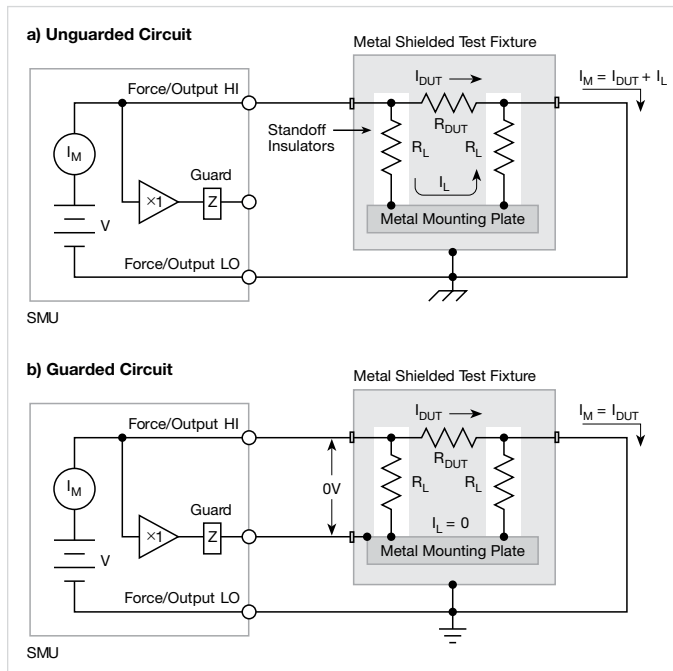

Figure 11. Using Guarding to Reduce Leakage in a Test Fixture
**Figure 11** shows how the guard can eliminate the leakage current that may flow through the stand-off insulators in a test fixture. In **Figure 11a**, the leakage current ( $I_L$ ) flows through the stand off insulators ( $R_L$ ). This leakage current is added to the current from the DUT ( $I_{DUT}$ ) and is measured by the SMU ammeter ( $I_M$ ), adversely affecting the accuracy of the low current measurement.